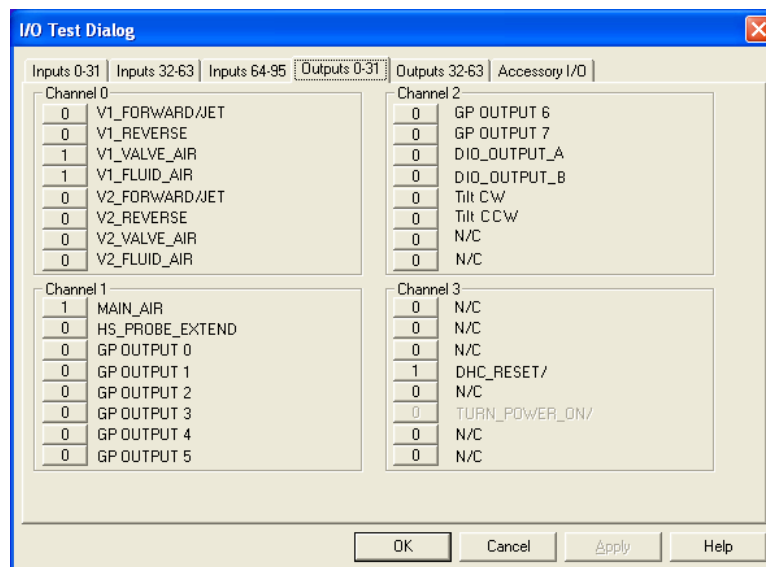

Figure 6-1 I/O Test Dialog
3. Click on the Outputs 0-31 tab (Figure 6-1).